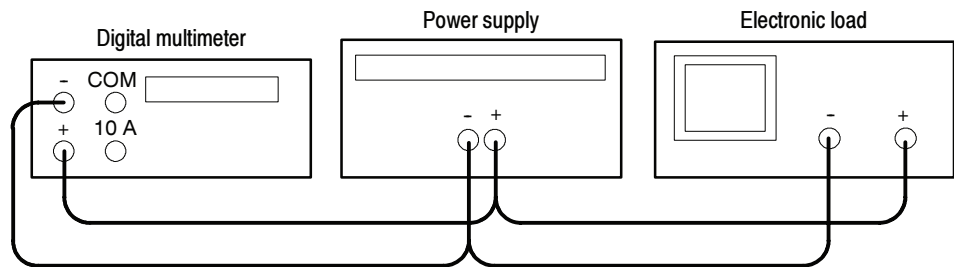

Figure 8: Constant voltage source test setup
2. Ensure that the power supply output is disabled. Connect the DVM and electronic load to the front panel OUTPUT 1 terminals. See Figure 8 for details.
7. Enable the electronic load. Adjust the load until the power supply CURRENT (A) readout indicates 2.500 A.
11. Ensure that the power supply output is disabled. Remove the leads from the front panel OUTPUT 1 terminals and connect them to the front panel OUTPUT 2 terminals. Maintain the equipment configuration and polarities shown in Figure 8.
2. Ensure that the power supply output is disabled. Connect the DVM and electronic load to the front panel OUTPUT 2 (+) and OUTPUT 1 (-) terminals. Maintain the equipment configuration and polarities shown in Figure 8.
2. Ensure that the power supply output is disabled. Connect the DVM and electronic load to the front panel OUTPUT 2 terminals. Maintain the equipment configuration and polarities shown in Figure 8.
2. Ensure that the power supply output is disabled. Connect the DVM and electronic load to the front panel OUTPUT 3 terminals. Maintain the equipment configuration and polarities shown in Figure 8.